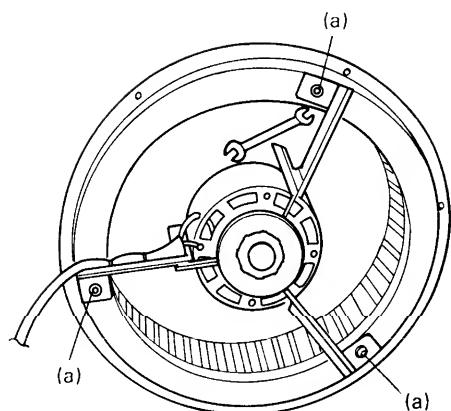

Fig. 5
- (4) Unfasten the three fan fixing bolts (a) as illustrated using a small spanners to remove the fan. (See Figure 5.)